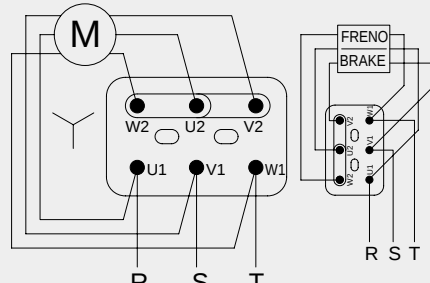

Fig. 19
Collegamento stella (Y): (fig. 19)
Delta connection (Y): (fig. 19)